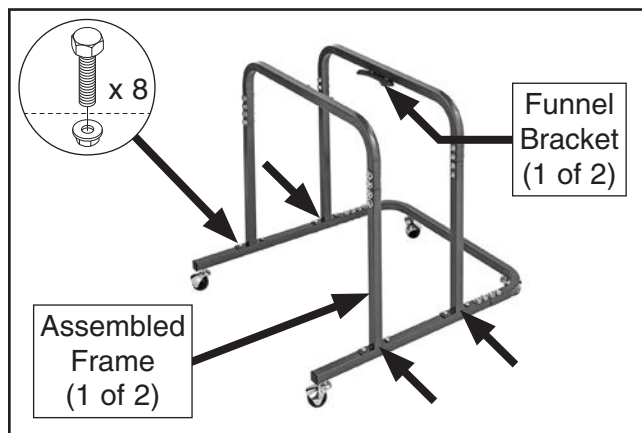

Figure 10. Assembled frames installed on base.
10. Repeat **Steps 7–9** with (1) frame arch, (2) frame legs, and (2) connectors.
11. Install (2) assembled frames on base (see **Figure 10**) with (8) $\frac{5}{16}$ "-18 x $1\frac{1}{4}$ " hex bolts and $\frac{5}{16}$ "-18 flange nuts. Only hand-tighten for now.
Note: Assembled frames must be installed with funnel brackets facing each other, as shown in **Figure 10**.